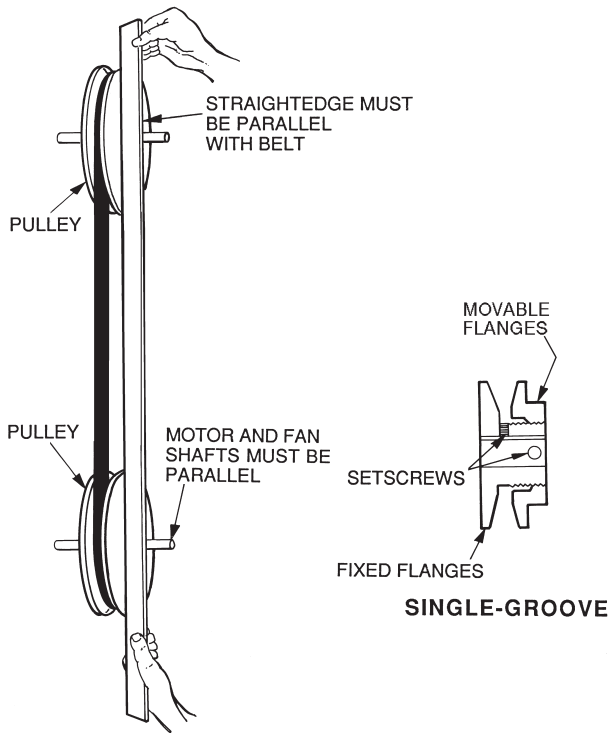

Fig. 27 - Evaporator-Fan Alignment and Adjustment C08081
3. Loosen movable-pulley flange setscrew. (See Fig. 27.)